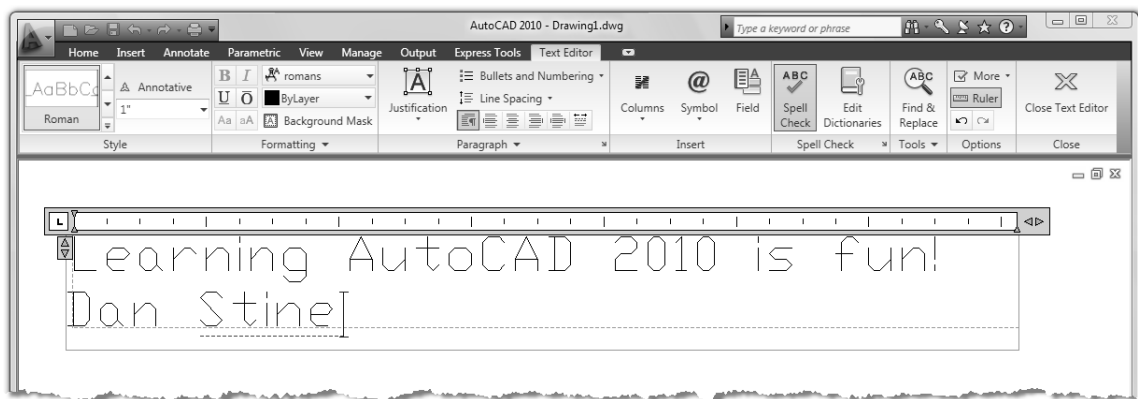

Figure 2-4.3 Mtext; text typed in text editor window; Text Formatting ribbon displayed
6. In the *Mtext Editor* you will type the following text (Figure 2-4.3):
7. When finished typing text, click the **Close Text Editor** button on the *Ribbon* shown in Figure 2-4.3 above; notice the *Ribbon* changes while in text edit mode.
With the *Mtext Editor* open (Figure 2-4.3), you can Copy/Paste text in from other programs such as MS Word. Most of the formatting (e.g., font, bold, underline, etc.) will be preserved.